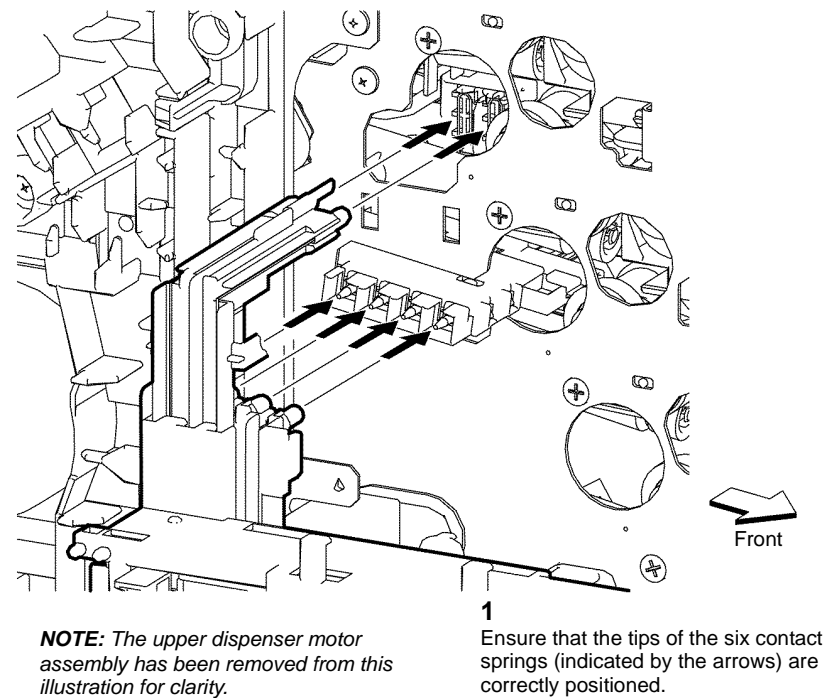

Figure 4 Contact springs
2. Ensure the outer developer charge housing assembly is installed correctly, Figure 4.